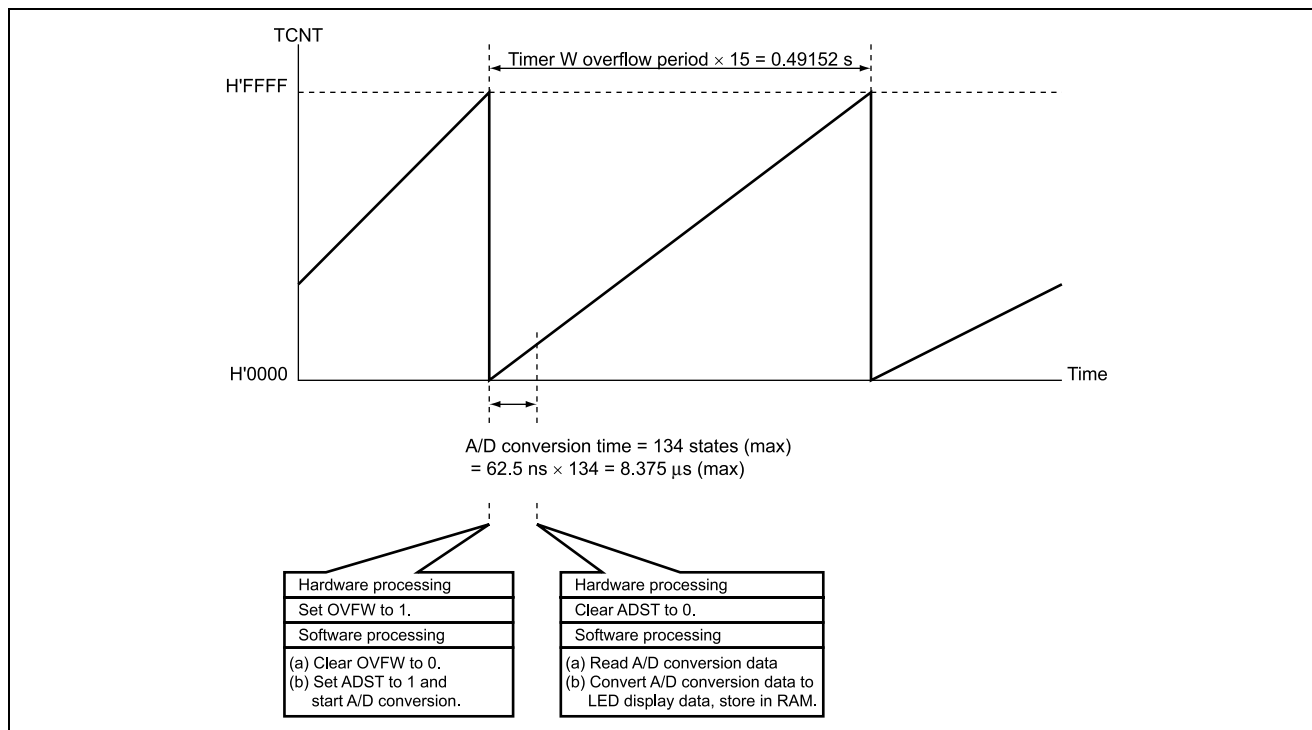

Figure 3.1 Principle of Operation of A/D Conversion of the AN0 Pin Output using Timer W
- Figure 3.1 shows the principle of operation when using the timer W to perform A/D conversion of the AN0 pin output. As shown in figure 3.1, in this sample task the A/D conversion period (0.49152 s) is measured using the timer W overflow flag in the tmrw routine, without using the A/D conversion interrupt, to judge the end of A/D conversion.